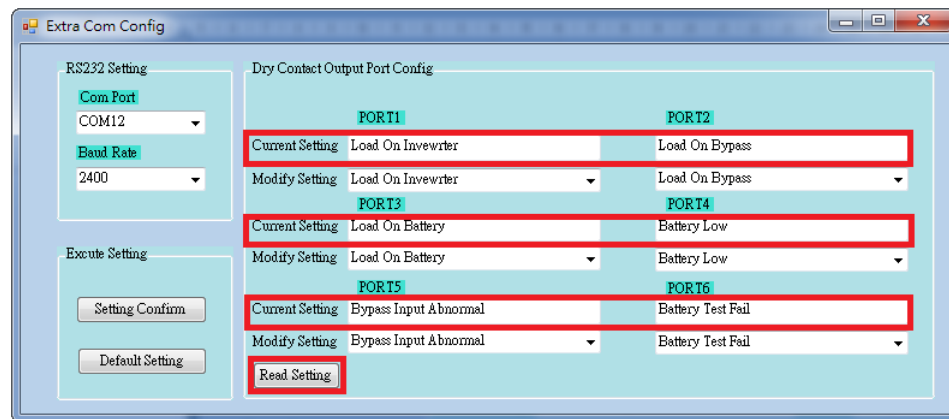

Figure 5-7
Step 3: Click "Read Setting" button to check the current setting of the dry contact output port. Refer to screen in Figure 5-7.